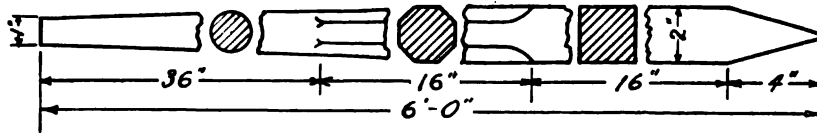

Fig. 66.
(2) By showing one or more parts on a regular view instead of making a separate drawing. (Fig. 66).
Note:—In the working drawing of the crow bar, Fig. 66, owing to the breaks, the drawing has been shortened one-third of its real length, thus saving considerable space. The workman understands that he is not to break the bar but to make it according to the dimensions shown. The small cross sections are called revolved sections.